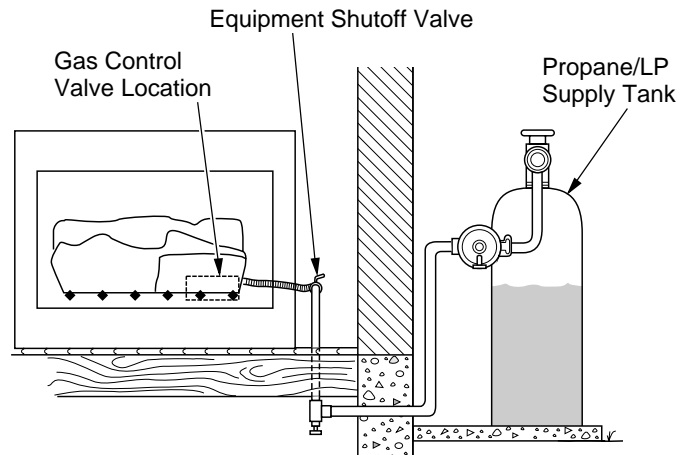

Figure 18 - Checking Gas Joints (Propane/LP only)
3. Check all joints from gas meter to equipment shutoff valve for natural gas or propane/LP supply to equipment shutoff valve for propane/LP (see Figures 18 and 19). Apply noncorrosive leak detection fluid to all joints. Bubbles forming show a leak.
4. Check all joints to gas control (see Figures 18 or 19). Apply noncorrosive leak detection fluid to all joints. Bubbles forming show a leak.